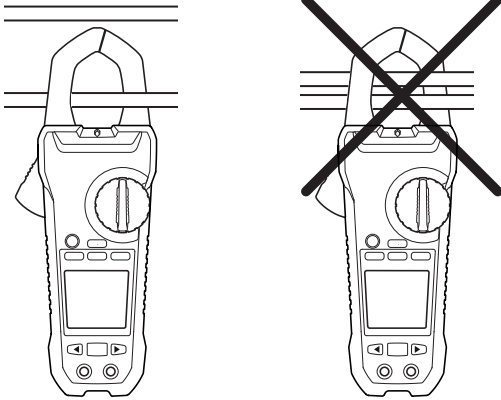

Figure 5.1 Correct and incorrect setup
When measuring current using the clamp jaws, only one conductor should be enclosed by the jaws—refer to Figure 5.1.
5. Press the trigger to open the clamp jaws. Fully enclose one conductor—refer to Figure 5.1. For optimum results, center the conductor in the jaws.
3. Press the trigger to open the clamp jaws. Fully enclose one conductor—refer to Figure 5.1. For optimum results, center the conductor in the jaws.